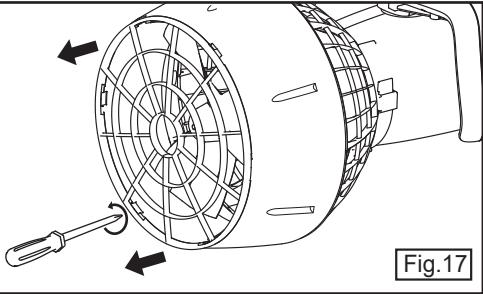

Fig.17
4. Unscrew the six rear grille screws as shown in figure 17.